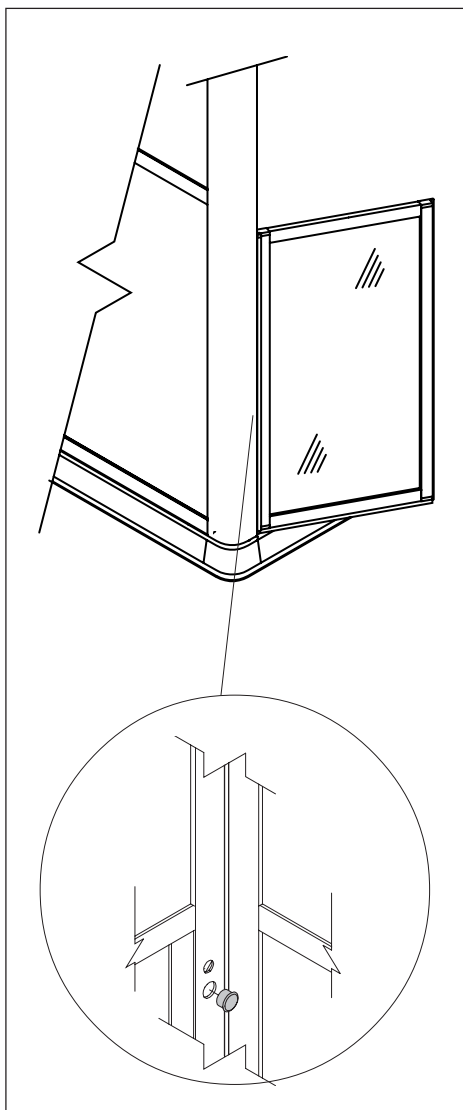

Fig 4.9
10. Fig 4.9 Slide the doors into the corner posts (6,7), ensuring that the doors open outwards. Secure with the screws and slot covers provided (see Inset). Check that the doors open and close correctly and the bottom seal is in contact with the shower tray base. The door must nearly be touching when closed so as not to leak. Using the drill provided drill through the holes in the corner section and lock into position with the 1/2" self tapping screws and shakeproof washers provided.